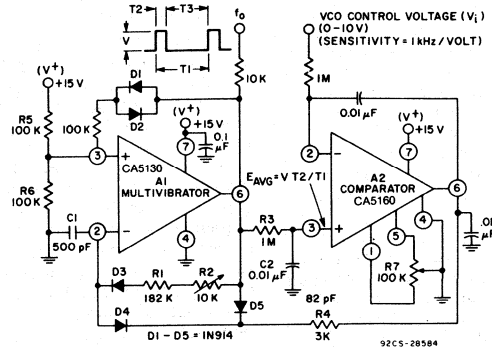

Fig. 25 — Voltage-controlled oscillator.
The circuit diagram of a precision voltage-controlled oscillator is shown in Fig. 25. The oscillator operates with a tracking error in the order of 0.02 percent and a temperature coefficient of 0.01%/°C. A multivibrator (A_1) generates pulses of constant amplitude (V) and width (T_2). Since the output (terminal 6) of A_1 (a CA5130) can swing within about 10 millivolts of either supply-rail, the output pulse amplitude (V) is essentially equal to $V+$. The average output voltage ($E_{avg} = V T_2/T_1$) is applied to the non-inverting input terminal of comparator A_2 (a CA5160) via an integrating network R_3, C_2 . Comparator A_2 operates to establish circuit conditions such that $E_{avg} = V+$. This circuit condition is accomplished by feeding an output signal from terminal 6 of A_2 through R_4, D_4 to the inverting terminal (terminal 2) of A_1 , thereby adjusting